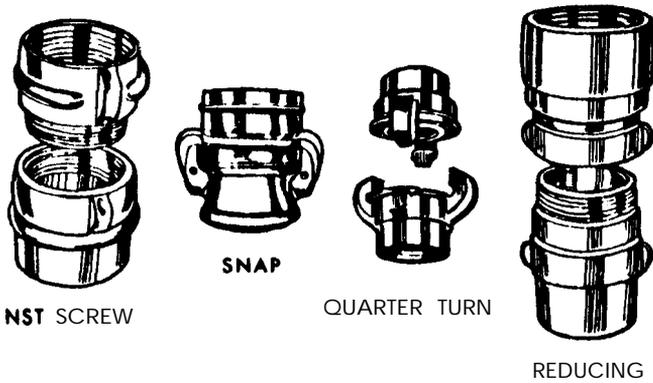

Figure 2-11. Couplings.
(3) Other types of coupling include *snap*, *quarter turn*, and *reducing couplings* (fig. 2-11). The snap coupling has spring loaded clips or lugs on the female coupling which clamp over a ring on the male coupling. Couplings are broken by disengaging the clips. The quarter turn coupling has beveled lugs on the couplings at each end of the hose. They are made up by twisting a quarter turn, which causes the beveled lugs to interlock. While both types can be made up and broken quickly, the advantage of being able to couple with a neighboring fire department's hose may be lost. Reducing or five part couplings are often used on 3-inch (7.6-centimeter) hose so it can be used interchangeably with 2½-inch (6.35-centimeter) hose. The smaller waterway caused by the reduction does not affect performance much because the length of small waterway is very short and a jet or venturi effect is created. Except for the reducing feature and construction, they are the same as the NST screw type.